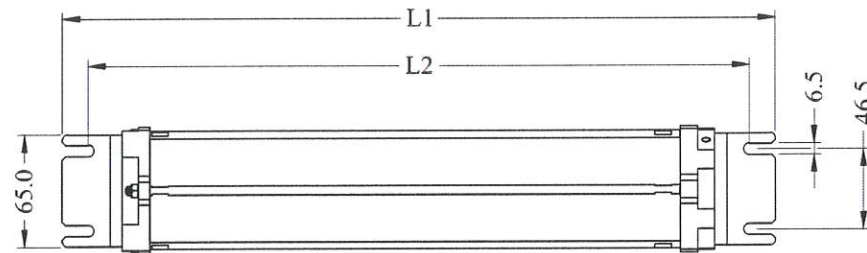

Figure 3
- Secure the wall/ceiling mounting bracket to the structure by using four fasteners (not provided) (Figure 3).